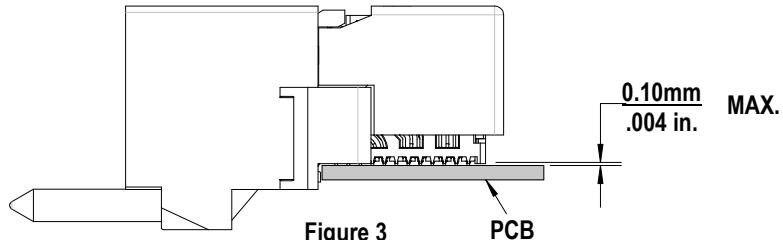

Figure 3
3. Using the application tool and an appropriate press, seat the Orthogonal Direct Ram module until there is less than 0.10mm (.004 in) clearance between the bottom of the plastic housing and the surface of the PCB. See Figure 3.